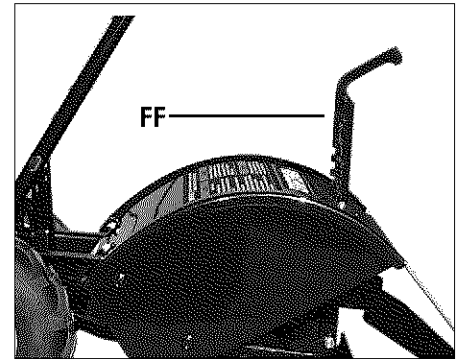

Fig. 2-10: Adjust Depth Regulator Lever.
1. Put the tiller on level ground. Pull the Depth Regulator Lever (FF, Fig. 2-10) back and then adjust it up or down to the notch that makes the tiller level.
2. With the tiller on level ground, pull the Depth Regulator Lever (FF, Fig. 2-10) back and then slide it up or down as necessary until the engine is level.